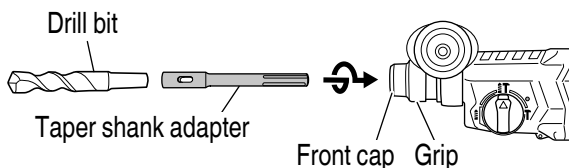
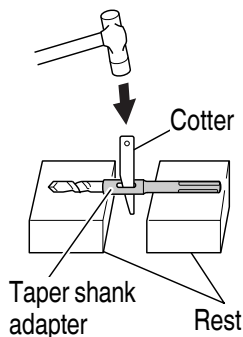

Fig. 23
Fig. 24
- (1) Mount the taper shank adapter to the rotary hammer. (**Fig. 23**)
- (2) Mount the drill bit (taper shank) to the taper shank adapter. (**Fig. 23**)
- (3) Turn the switch ON, and drill a hole in prescribed depth.
- (4) To remove the drill bit (taper shank), insert the cotter into the slot of the taper shank adapter and strike the head of the cotter with a hammer supporting on the rests. (**Fig. 24**)